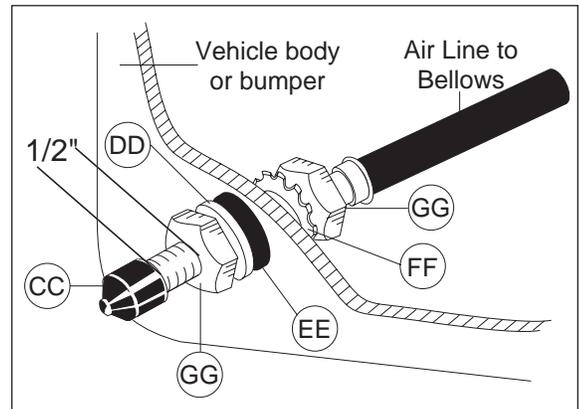

Figure 9
4. Install the inflation valves as shown in Figure 9.